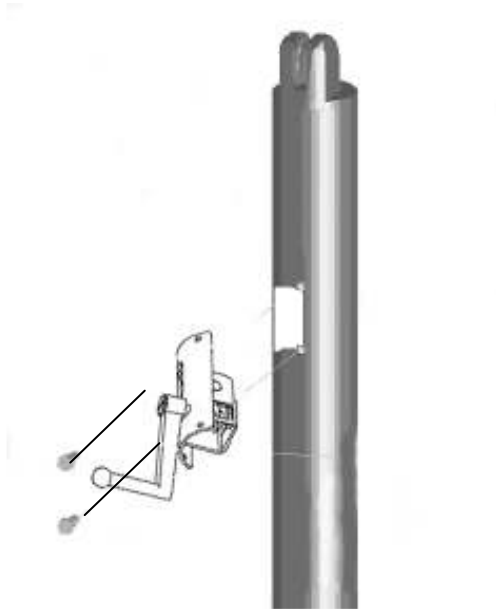

FIG 1.
1. Assemble posts by inserting round internal winder into slot on side of the 2-7/8" winder post. Align the four screw holes and attach screws (Part 0034-10). Secure with wrench to secure winder to post. (FIG. 1)